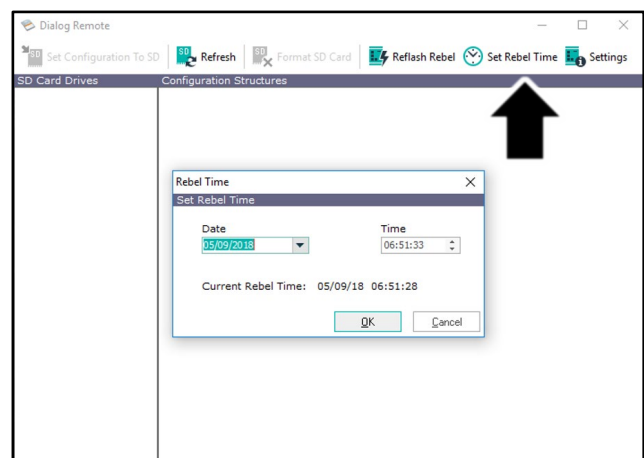

Figure 3
7. Open "Dialog Remote" and click on "Set Rebel Time" (refer to Figure 3)